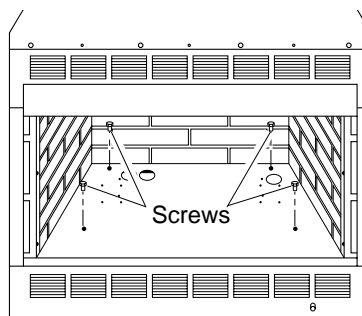

Figure 8 - Removing Screws from Firebox Bottom
- a. Remove the 4 screws that secure the bottom of the firebox (see Figure 8).